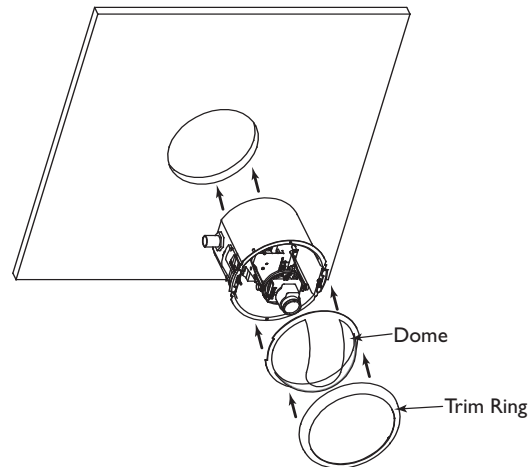

Figure 3
9. Assemble dome in the trim ring by lining the slots in the dome with tabs in the trim ring and pushing the sides of the dome under the tab. Turn the dome to secure it (see **Figure 3**).
10. Attach the dome/trim ring by lining up the dots on the box and the trim ring. Push on one side of the trim ring near the flat section of the box, then push on the other side of the trim ring until it snaps into place. Listen for a distinct click to ensure ring is securely in place (see **Figure 3**).
3. Install box into pre-cut hole. Position the round section of the box in the direction that the camera will be aimed (see **Figure 3**).